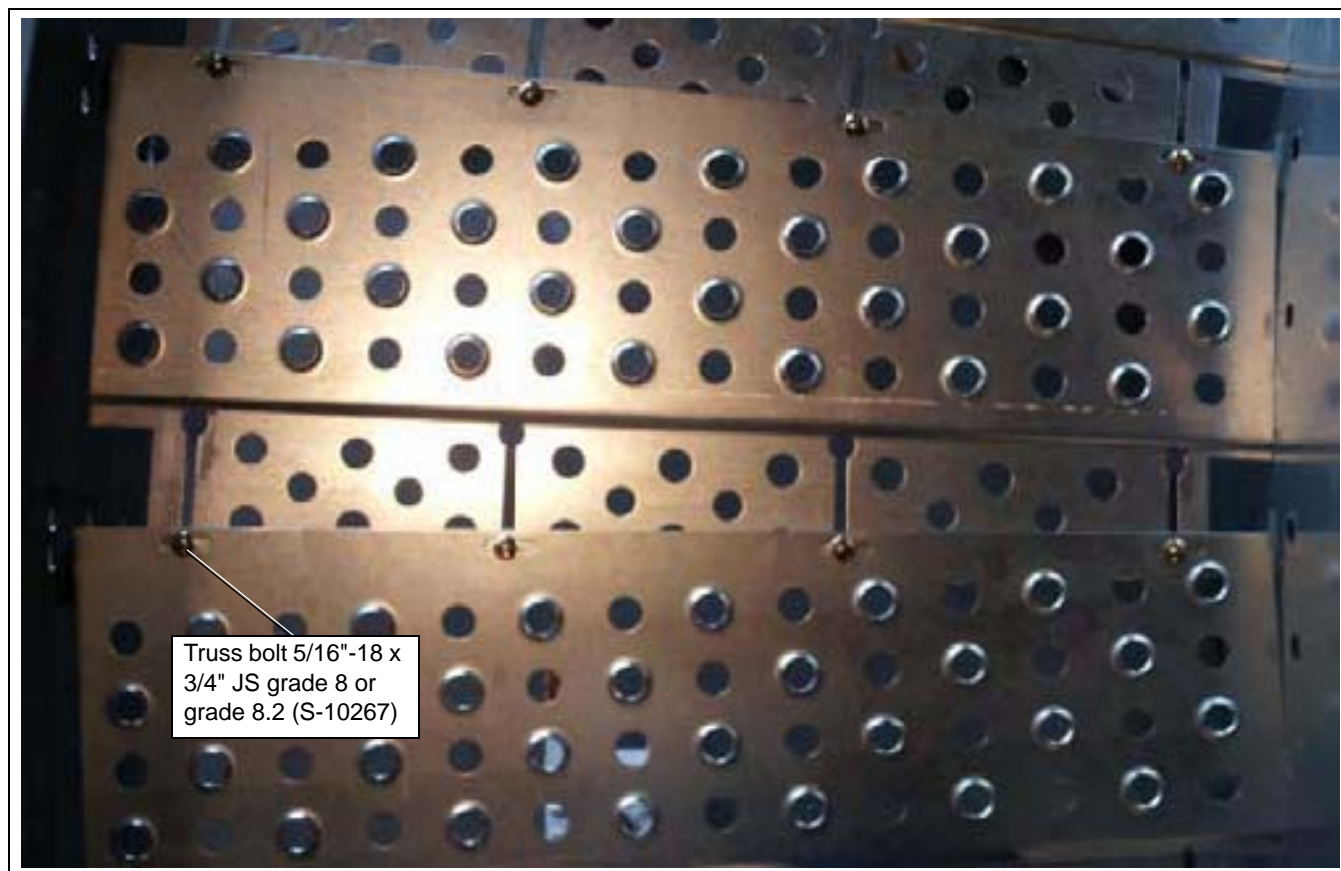

Figure 4N
- Each plank should be overlapped at the edges and bolted with 5/16"-18 x 3/4" JS grade 8 or grade 8.2 bolts (S-10267) and 5/16"-18 JS grade 5 nuts (S-10268). (*See Figure 4N.*)